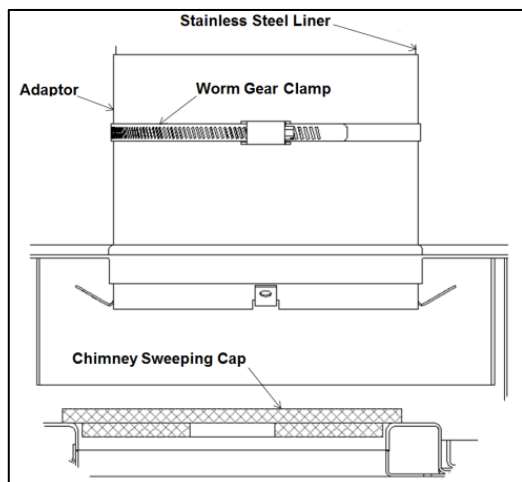

Figure 3-5: Liner Adaptor Installation
- Reposition the chimney sweeping cap back in the chimney sweeping cap hole of the baffle (refer to Figure 3-5).